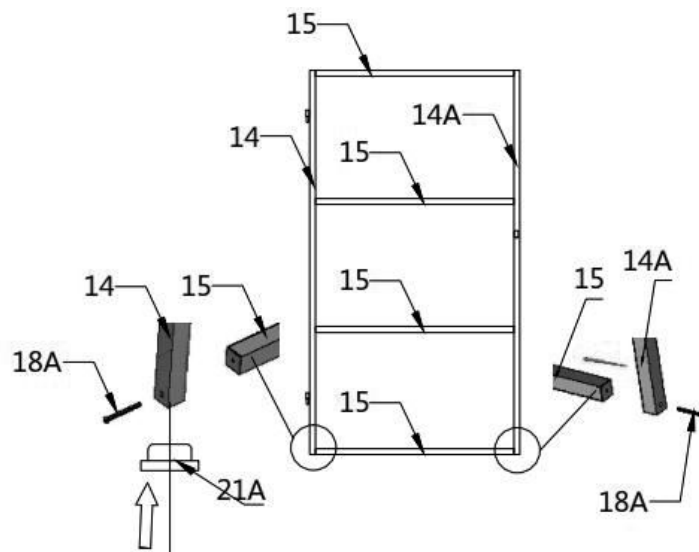

Figure 10
- Assemble the sliding door. Fix the door column (#14) and (#14A) on the cross pull tube (#15) with bolts (#18A)(refer to figure 10).
- (1) Door frame column tube (#14)